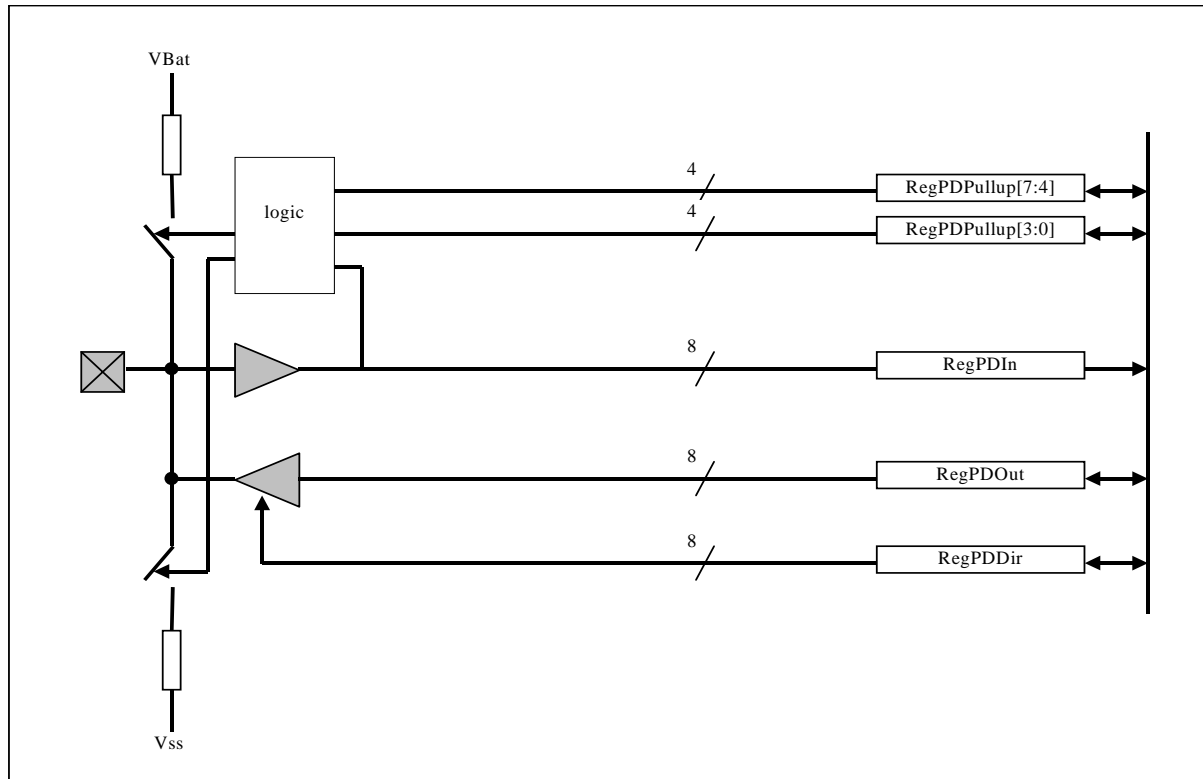

Figure 13-1 : structure of PortD
Port D (PD) is a general purpose 8 bit input/output digital port. Figure 13-1 shows its structure.